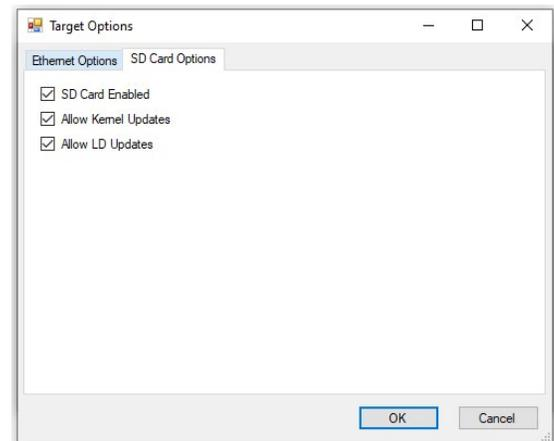

Figure 2.36 - HEC-P2xxx SD CARD OPTIONS
8. Click the **TARGET OPTIONS** button. The Target Options window will open. There will be two tabs in this window. Click the **SD CARD OPTIONS** tab. See Figure 2.36.